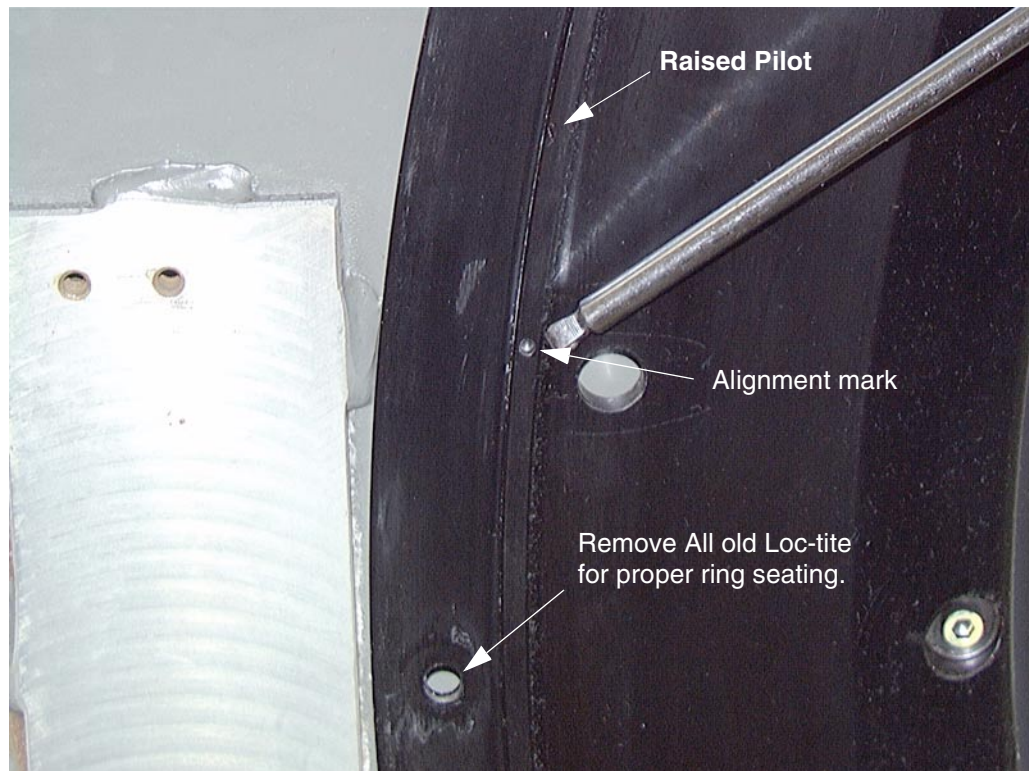

Figure 2-7 Bearing Flange Preparation
- 5.) Carefully remove the dry loctite from the bearing flange surface. This is to ensure a good flat seat for the new slip-ring assembly. Reference Figure 2-7.